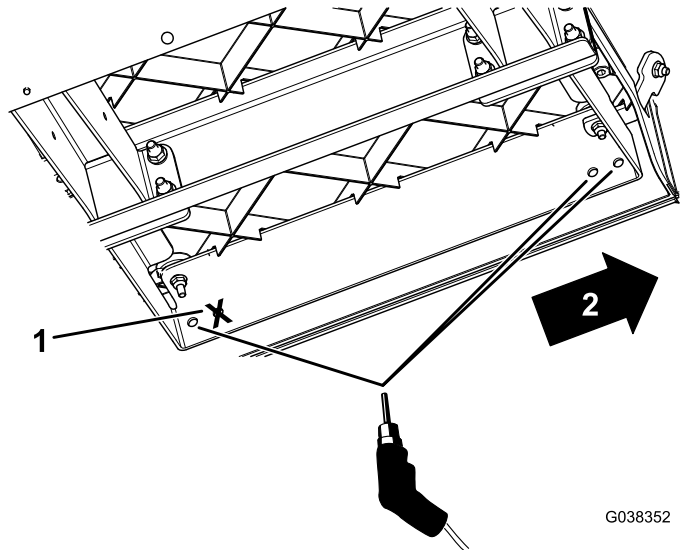

Figure 6
- Using the new floor-plate supports as a guide, drill 3 holes (3/8-inch diameter) into each floor plate (Figure 6).
Important: Drill only the front 2 holes on the new floor-plate supports and the farthest, rear hole; as shown in Figure 6.